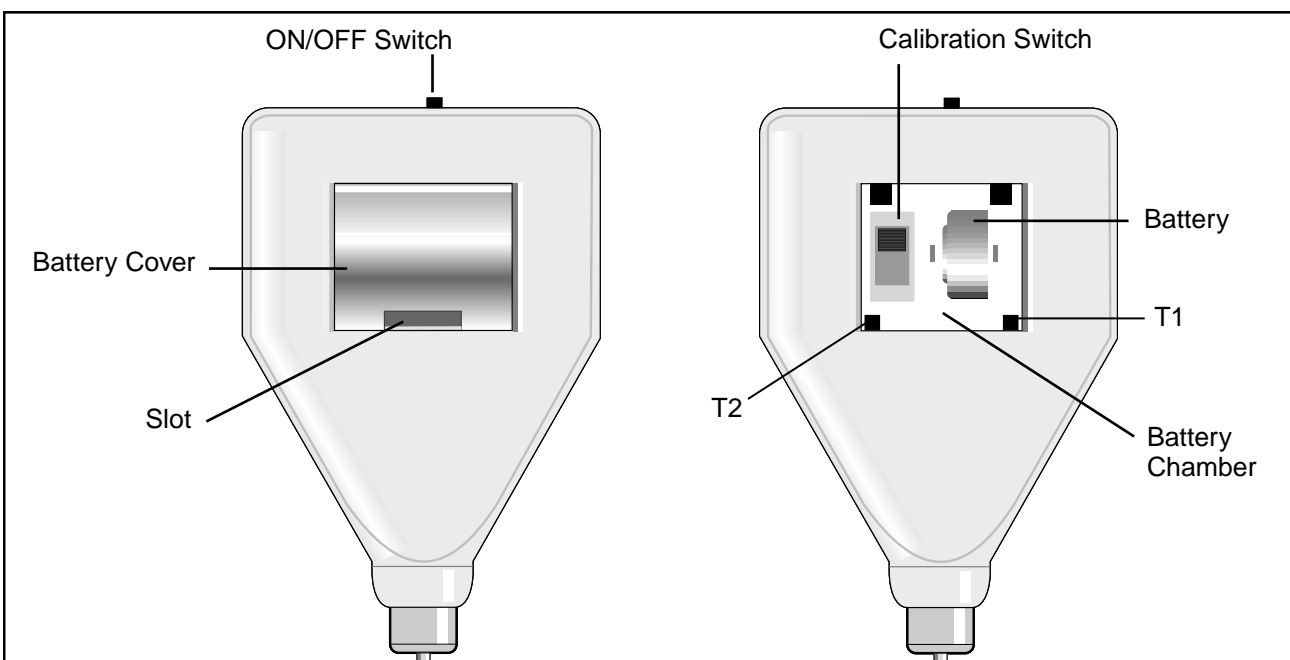

Figure 3: Digital Thermometer, Back View
1. Verify that the digital thermometer is turned on and remove the battery cover from the rear of the digital thermometer by lifting the cover at the slot (see Figure 3).
2. Move the calibration switch to the down (ON) position. The display should read -0.4° to 0.4°C .
9. If necessary, adjust T2 (see Figure 3), until the display reads the same temperature as indicated on the reference thermometer.
1. Remove the battery cover from the rear of the digital thermometer by lifting the cover at the slot (see Figure 3).
2. Remove the old battery (see Figure 3).